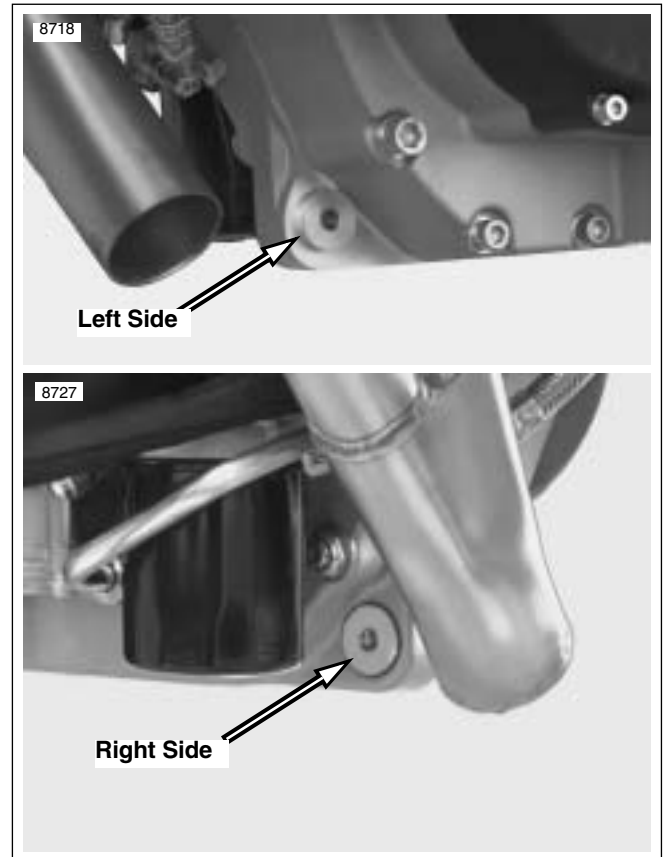

Figure 3-30. Front Exhaust Mount Bushings (2 piece)
21. Remove left and right side rider footrests and support plates. See Figure 3-30 FOOTREST, HEEL GUARD AND MOUNT.
- See Figure 3-30. Aluminum bushings from front exhaust mount.